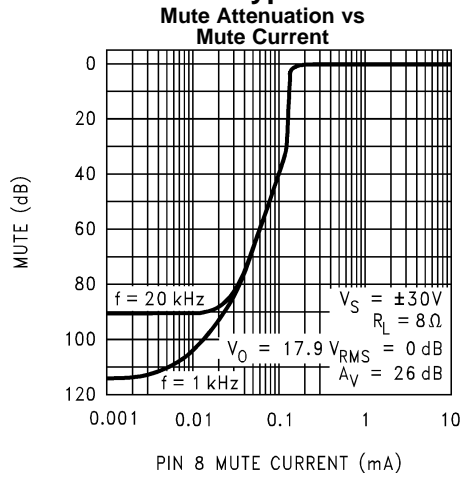

Figure 45.
12. $R_M$	Mute resistance set up to allow 0.5 mA to be drawn from pin 8 to turn the muting function off. → $R_M$ is calculated using: $R_M \leq ( V_{EE}  - 2.6V)/I_8$ where $I_8 \geq 0.5$ mA. Refer to the <a href="#">Figure 44</a> and <a href="#">Figure 45</a> in <a href="#">Typical Performance Characteristics</a> .
**Mute Function:** The muting function of the LM3886 allows the user to mute the music going into the amplifier by drawing less than 0.5 mA out of pin 8 of the device. This is accomplished as shown in the Typical Application Circuit where the resistor  $R_M$  is chosen with reference to your negative supply voltage and is used in conjunction with a switch. The switch (when opened) cuts off the current flow from pin 8 to  $V^-$ , thus placing the LM3886 into mute mode. Refer to Figure 44 and Figure 45 in Typical Performance Characteristics for values of attenuation per current out of pin 8. The resistance  $R_M$  is calculated by the following equation: